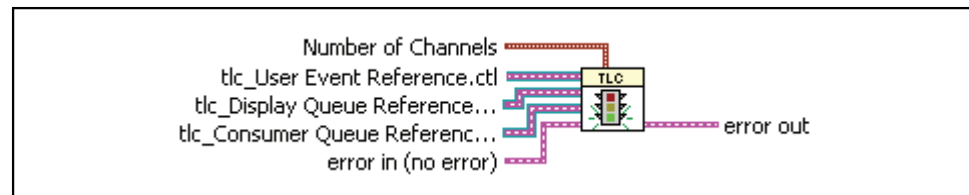

Figure 7-2. Initialize Function Icon and Connector Pane
4. Modify the connector pane for the tlc_Initialize VI, as shown in Figure 7-2.